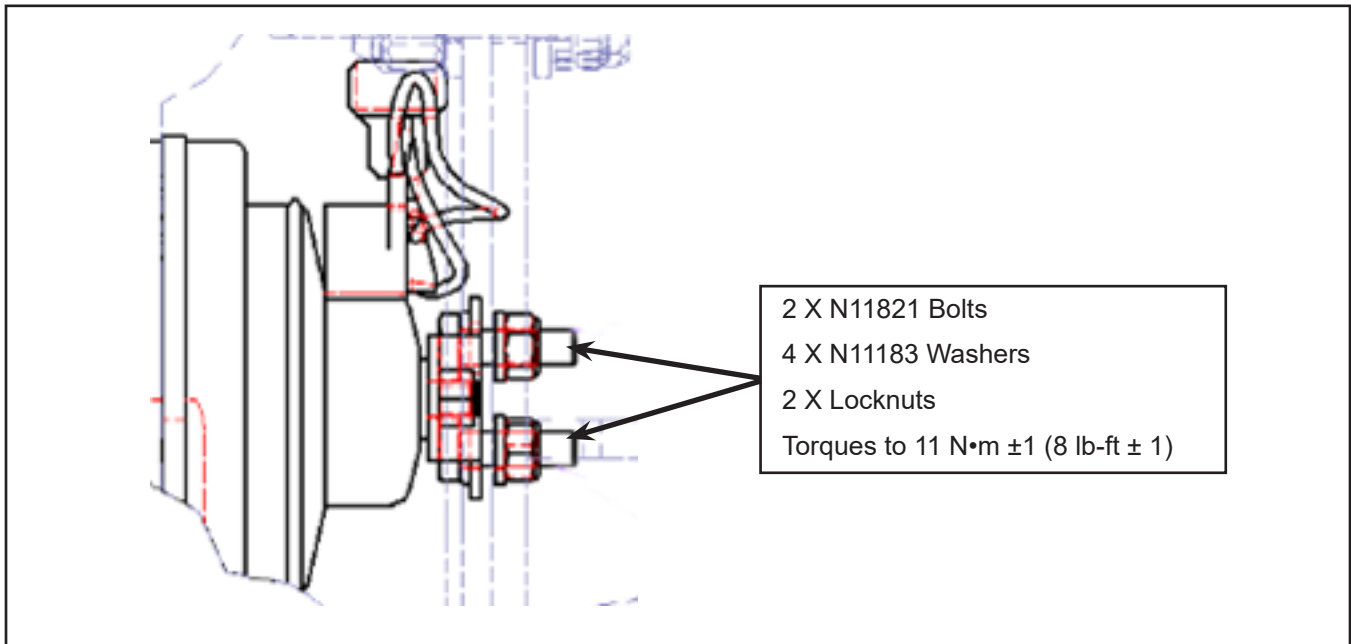

Figure 2 - Horn Anchor Bolts Torque Value
- 1.5. Affix the new N104605 horn where the removed horn was, using 2 X N11821 bolts, 4 X N11183 washers and 2 X N11185 locknuts. See Figure 2 for torque value.